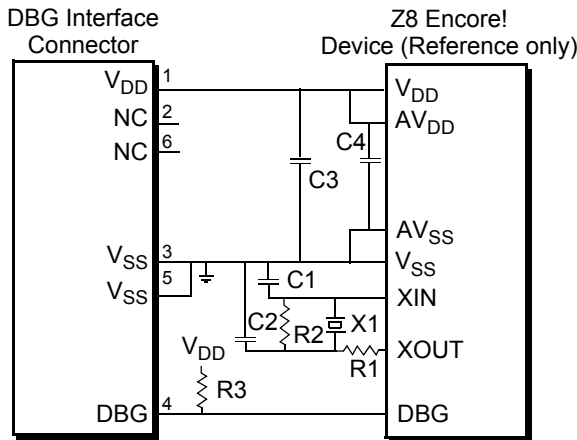

Figure 4. Smart Cable to Z8 Encore! Device Schematic
- The Z8 Encore! must be clocked to generate the DBG timing signals. For the recommended crystal oscillator circuit, see Figure 4 on page 4.
Figure 4 illustrates how the Smart Cable connects to the Z8 Encore! device.